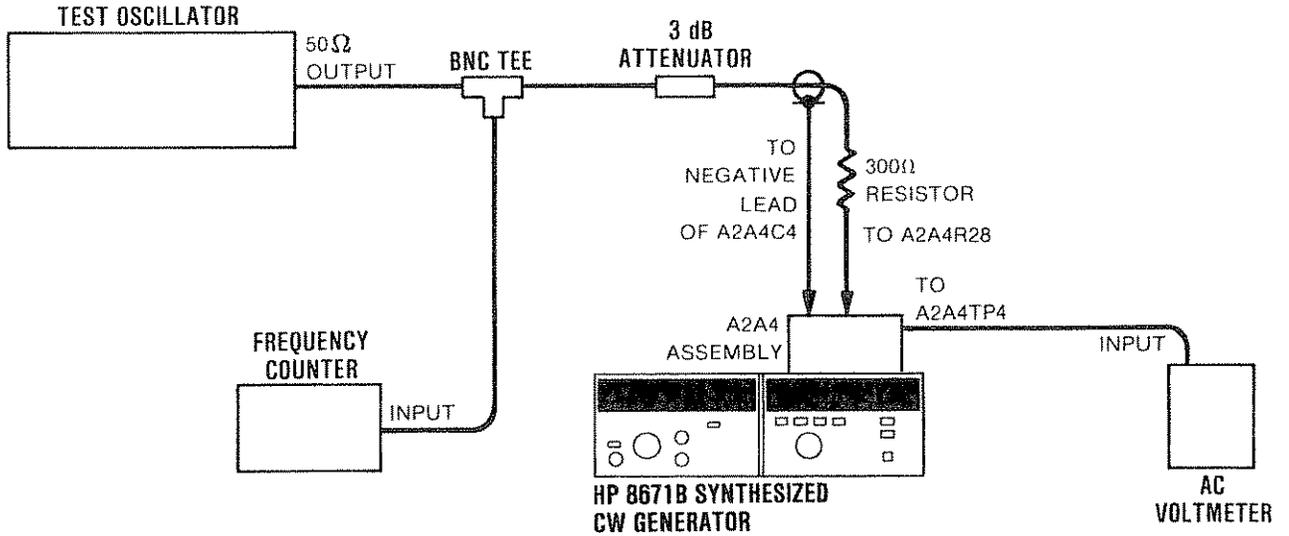

Figure 5-5. 20/30 Phase Detector Notch Filter Adjustment Test Setup
5. Connect the equipment as shown in Figure 5-5. The leads from the 3 dB attenuator should be as short as possible. Connect the ground wire to the negative side of A2A4C4.